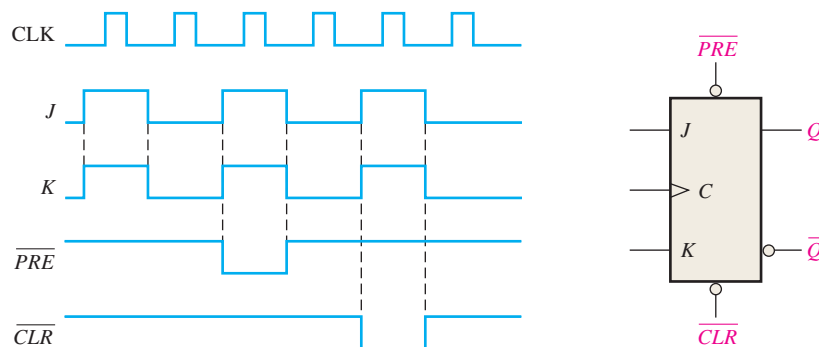

FIGURE 7-83
14. Determine the Q waveform relative to the clock if the signals shown in Figure 7-83 are applied to the inputs of the J-K flip-flop. Assume that Q is initially LOW.